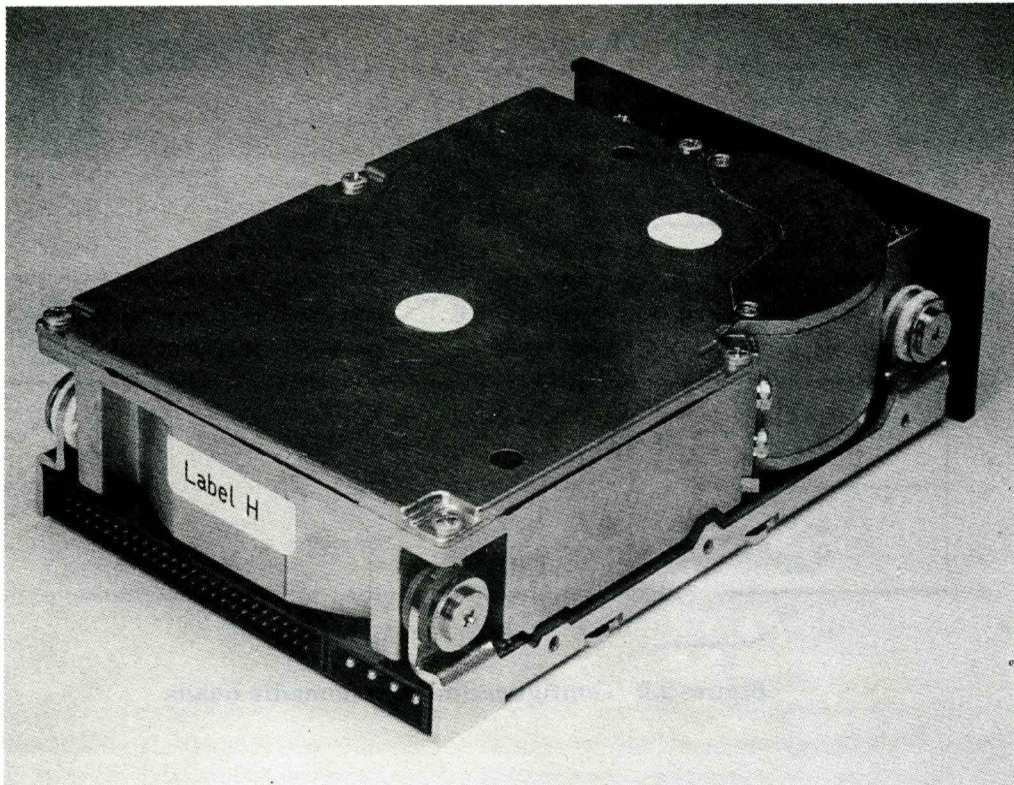

Figure 2.1 Disk drive
Figure 2.1 shows the disk drive. The disk drive consists of a disk enclosure (DE), read/write preamplifier and controller PCA, and mounting brackets. The disk enclosure contains the disk media, heads, spindle motors, actuators, and a circulating air filter.